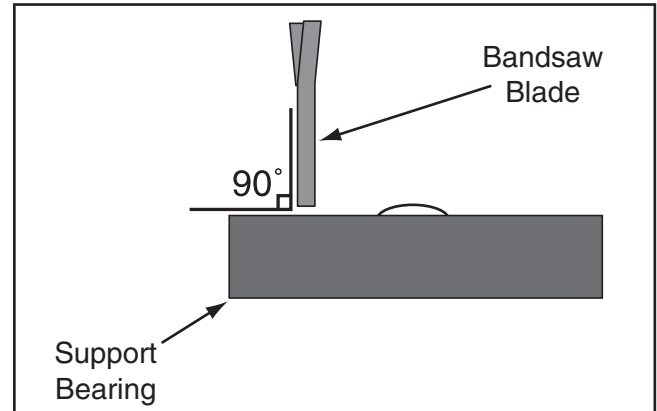

Figure 25. Blade should be perpendicular (90°) to the face of the support bearing.
4. Check that the blade is approximately 90° to the face of the support bearing as illustrated in **Figure 25** (it is not critical that it be precisely 90°—just make sure it is close.)
—If the support bearing is not 90° to the blade, loosen the two guide block assembly cap screws, rotate the blade guide assembly side-to-side, until the blade is 90° to the face of the support bearing as illustrated in **Figure 25**, then tighten the guide block assembly cap screws and re-adjust the blade guides.